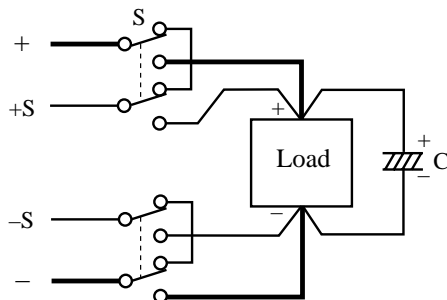

Fig. 4-2 Power on/off using mechanical switches
- **To turn on/off the power supplied to a load using a mechanical switch, provide additional switches between the sensing wires as shown in Fig. 4-2; turn on/off the power and remote sensing function simultaneously.**
5. Connect an electrolytic capacitor (C) with a capacity of approx. 100 to 100,000  $\mu$  F across the load terminals.
**⚠ CAUTION** • Use a capacitor (C) whose withstand voltage is 120% or more of the unit's rated voltage.
- If the length of wiring to a load extends to 3 m or more, the phase shift caused by the inductance and capacitance of the wiring becomes non-negligible, thereby causing oscillation. In such cases, the capacitor (C) prevents oscillation.
- If the load current changes suddenly to pulse form, the output voltage may increase due to effects from the inductance components of the wiring. In such cases, the capacitor (C) also prevents variations in output.